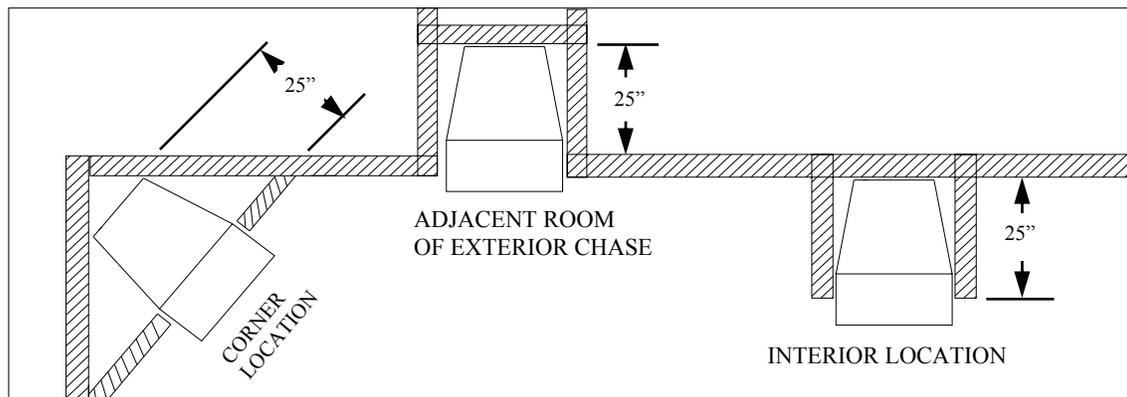

FIGURE 4
Above (Figure 4) are framing location examples with depth dimensions for some typical configurations. These are finished measurements so install accordingly.
2. Lay out the location on the floor for ZC cabinet. (See Figure 4)